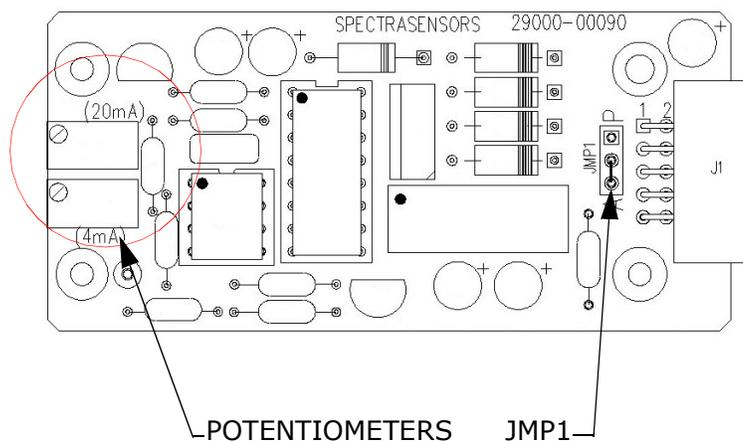

Figure 3-5 4-20 mA output board
3. Remove the jumper (JMP1), shown in Figure 3-5, connecting the center hole to point "A."
2. Adjust the potentiometers on the end of the board to change the zero and span readings. Refer to Figure 3-5.